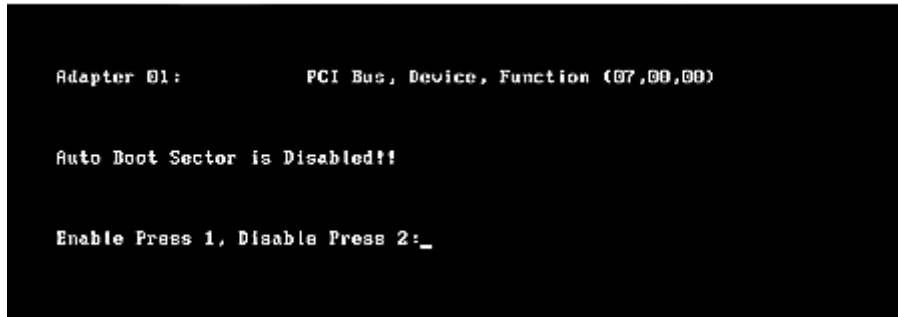

Figure 18: Enable or Disable Auto Sector Format Select screen
2. Select **<10>**, Enable or Disable Auto Boot Sector (+Advanced Option+) (Figure 18).